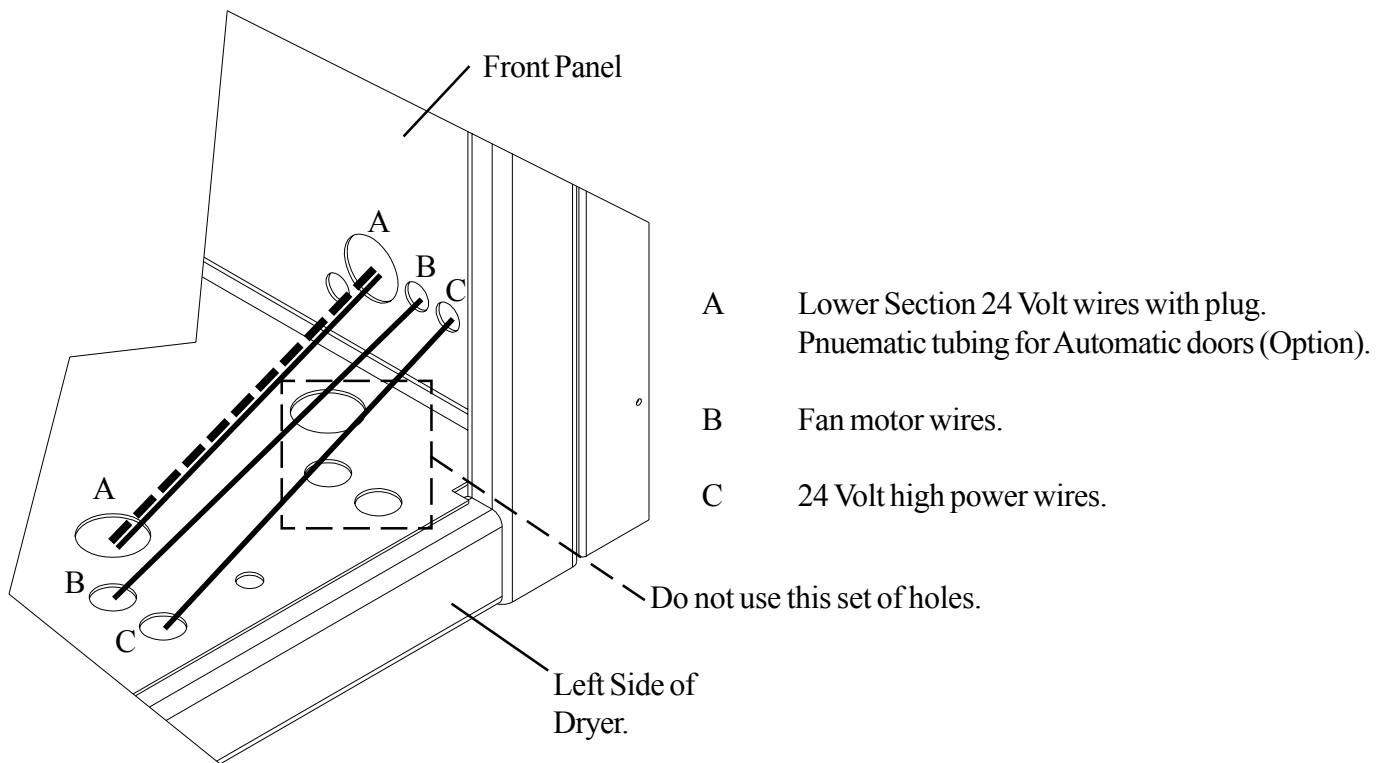

Figure-8A
STEP 11: Open side access doors on top section. The side covers on the bottom section should already be off. Look in side of bottom section toward the bottom of the top section. There should be three different wires tie together at the front corner of dryer. Take tie off of wires. Two of the wires are in flexible cable and you need to remove nuts before running wires. Run Lower Section 24V wires with plug through hole "A" in bottom of top section and front panel (See Figure-8A & 8B). Run fan wires (labeled F1-F3) through hole "B" in bottom of top section and front panel (See Figure-8A & 8B). Put the flexible cable nut back on wires and tighten down against front panel. Run 24V High Power wires (labeled L1-L3) through hole "C" in bottom of top section and front panel (See Figure-8A & 8B). Put the flexible cable nut back on wires and tighten down against front panel. Wiring should not be placed where it can catch anything on cylinder, etc when the dryer is being tilted in either direction.
STEP 11A: On dryers with automatic doors you will need to take the 1/4" nylon tube, that is bundle with the wires in the previous step, and run it through hole "A" in bottom of top section and front panel (See Figure-8A & 8B).